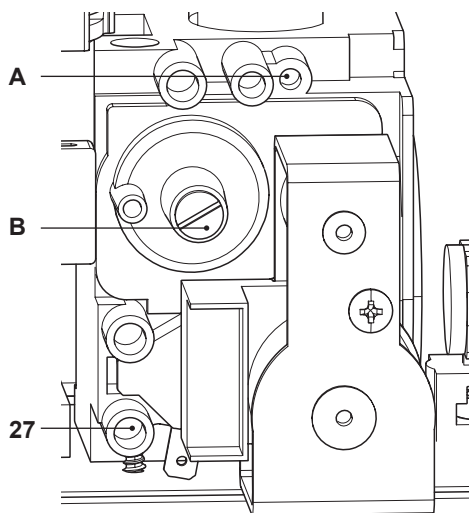

Fig. 7.9
- With the boiler switched on at full rate (maximum output power), check the supply pressure by using the 27 point in Fig. 7.9 and compare the value with that reported on the Gas supply pressure table (minimum inlet pressure) in the "Technical Data" section (page 24 **Advance Plus 25S ERP** and page 27 **Advance Plus 30S ERP**).
- Ensure the test nipple 27 in Fig. 7.9 is firmly closed.